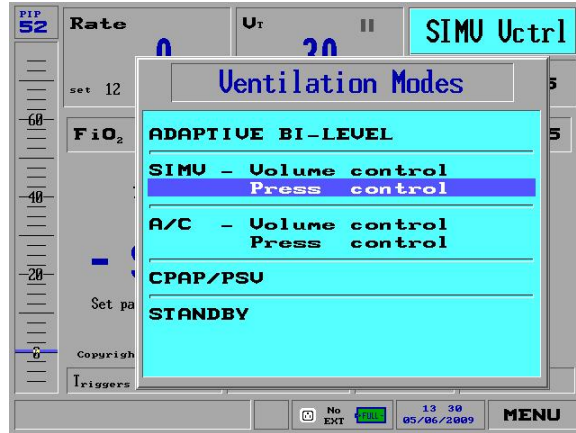

Figure 32: Pressure Control Option Selected
3. Press the Control Knob and the **Parameters** screen appears. Turn the knob clockwise one click to select **Pressure Control** (Figure 32):